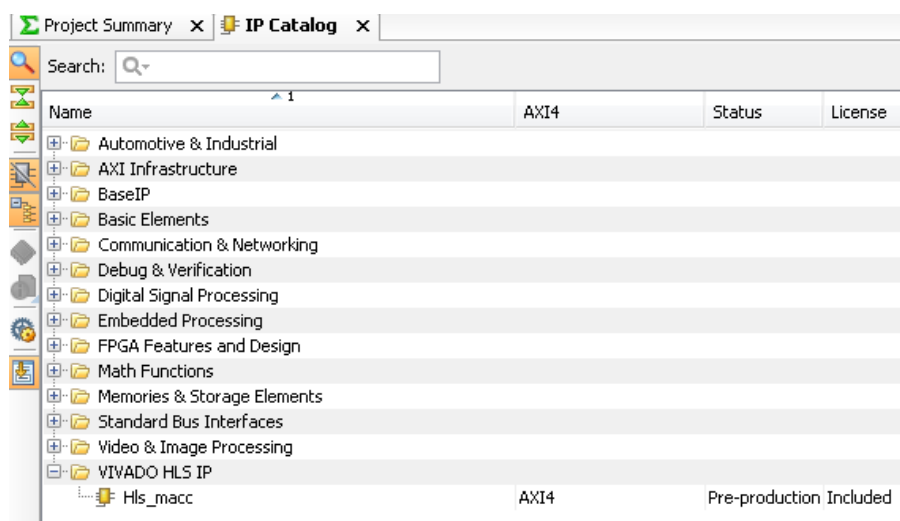

Figure 226: HLS IP in the IP Catalog
8. There is now a Vivado HLS IP category in the IP Catalog and, if expanded, the Hls_macc IP displays (Figure 226).